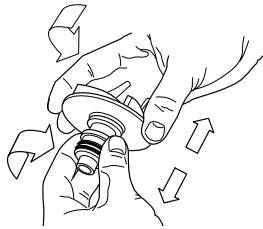

Figure 3
5. Carefully remove rotating part of seal from impeller sleeve by pulling and turning on sealing washer and spring (Figure 3). Do not damage impeller surface where drive ring seats and seals.